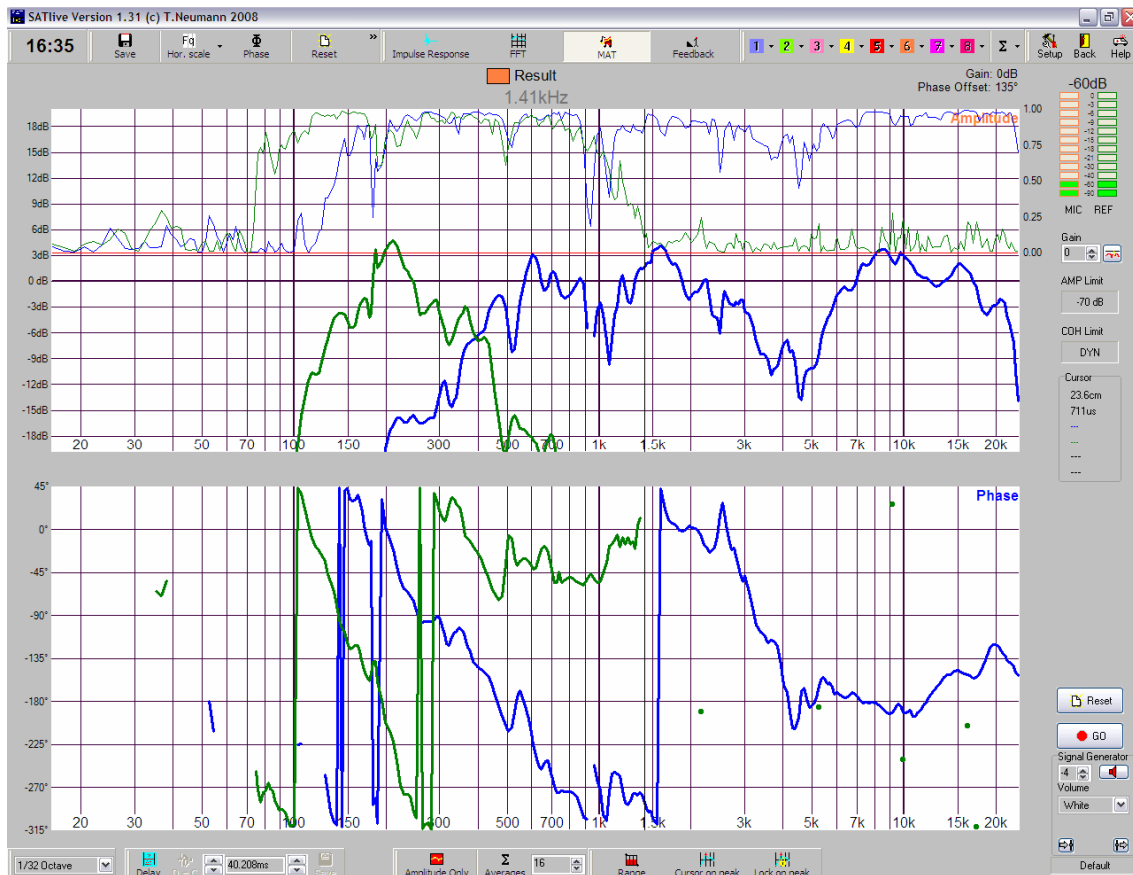

Fig 16. Phase can be seen to be different at the crossover region, so it is clear that the sum between subwoofer and mid-high can be improved upon.
8) Measure the subwoofer and compare the phase curve with that of the mid-high box. The result can be seen in Figure 16.